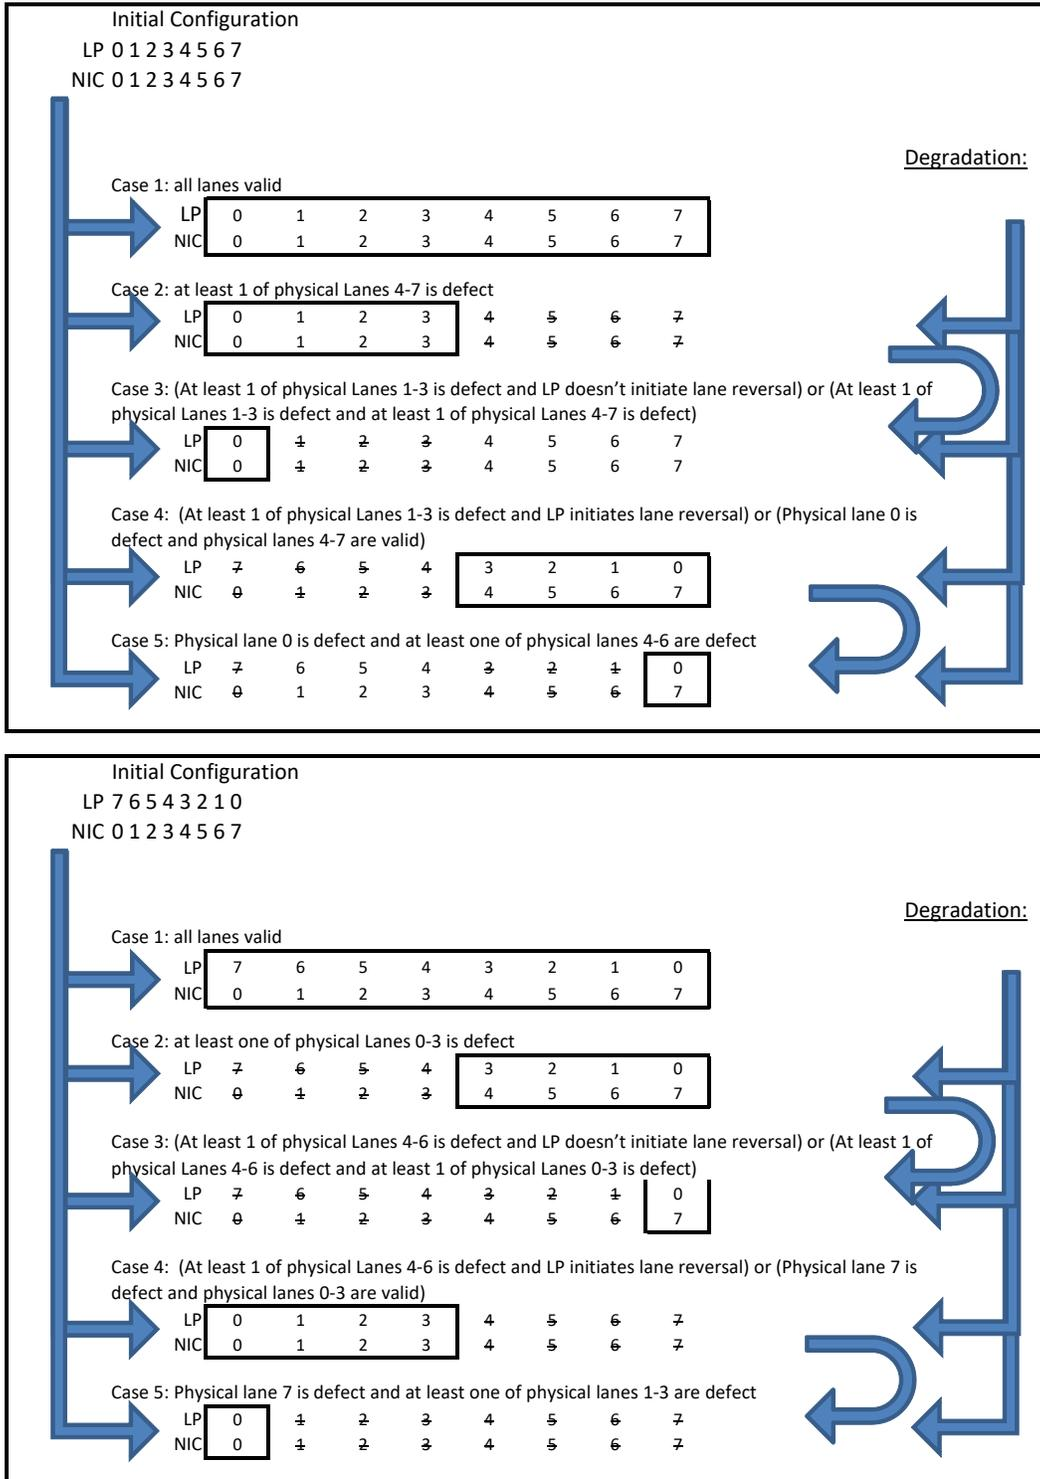
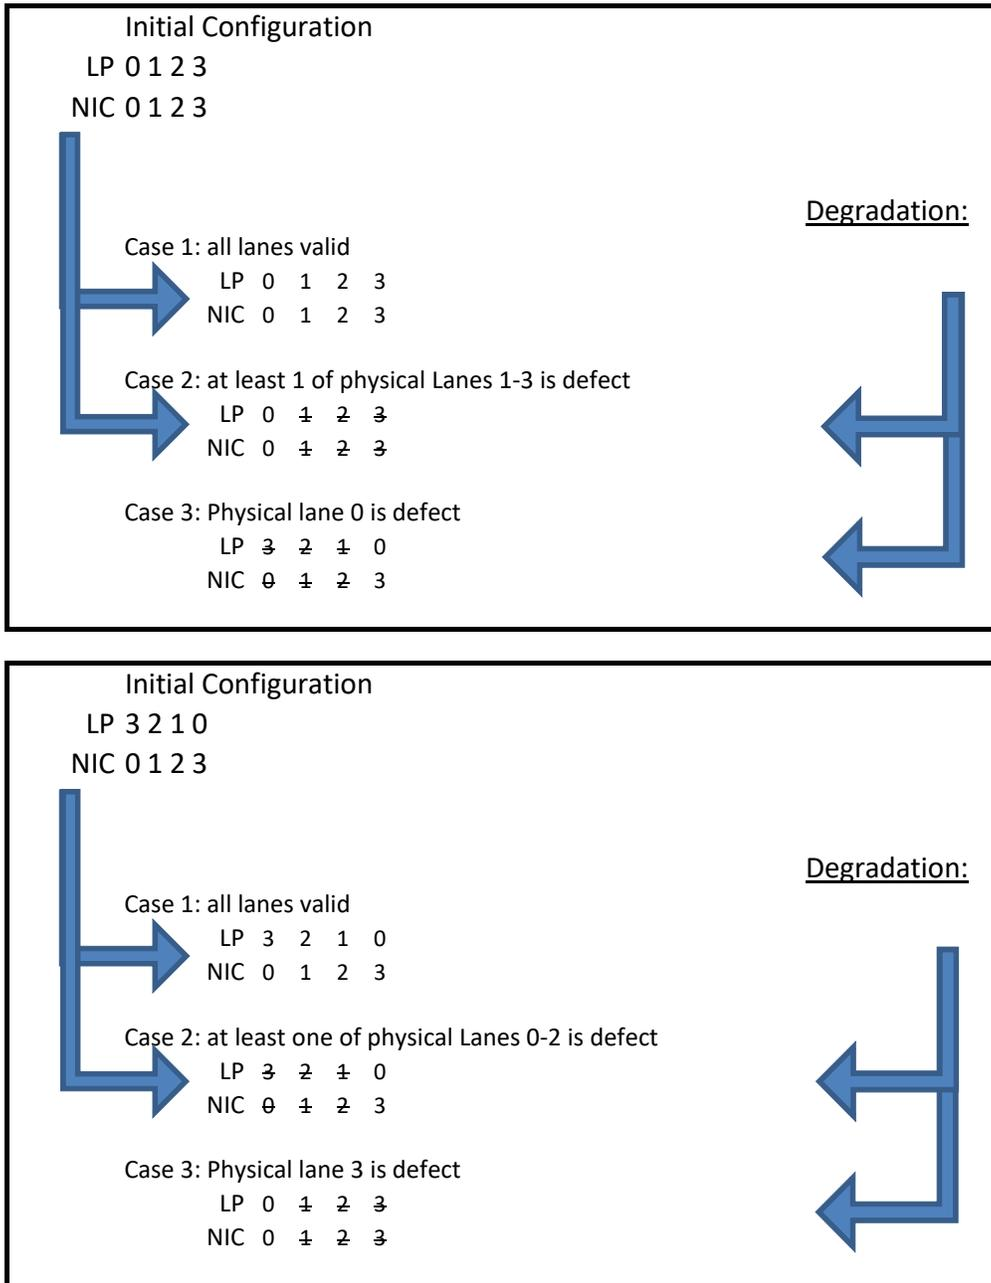
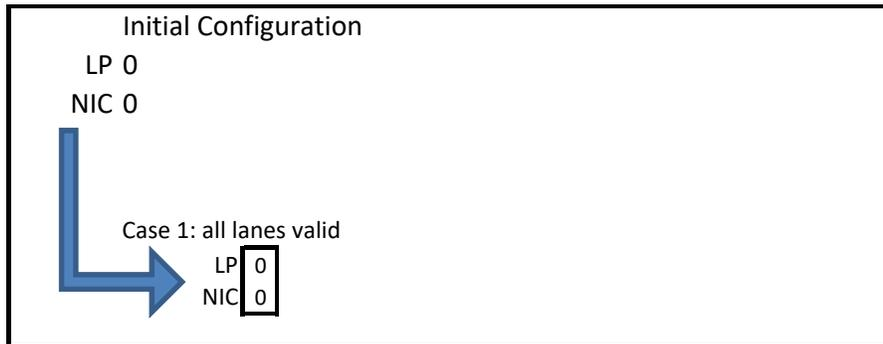

Figure 3-2. Link Width Configurations for a x8 Port
Figure 3-3. Link Width Configurations for a x4 Port
Figure 3-4. Link Width Configurations for a x1 Port
- If lane 0 is found valid, the X550 does not initiate lane reversal. The link partner (LP) may initiate lane reversal (to end up with an optimal lane width) and the X550 consents with the lane reversal.
Figure 3-2, Figure 3-3, and Figure 3-4 depict the initial link width configuration and link degradation options. In Figure 3-2 and Figure 3-3, the upper part of the Figure describes link options where the Link Partner (LP) and the X550 (NIC) are aligned. The bottom part of the Figure describes link options where the Link Partner and the X550 are reversed in order.
- Figure 3-2 applies when either the Link partner or the X550 is physically set to x8.
- Figure 3-3 applies when either the Link partner or the X550 is physically set to x4 and both are not physically set x8.
- Figure 3-4 applies when both the Link partner or the X550 is physically set to x1.